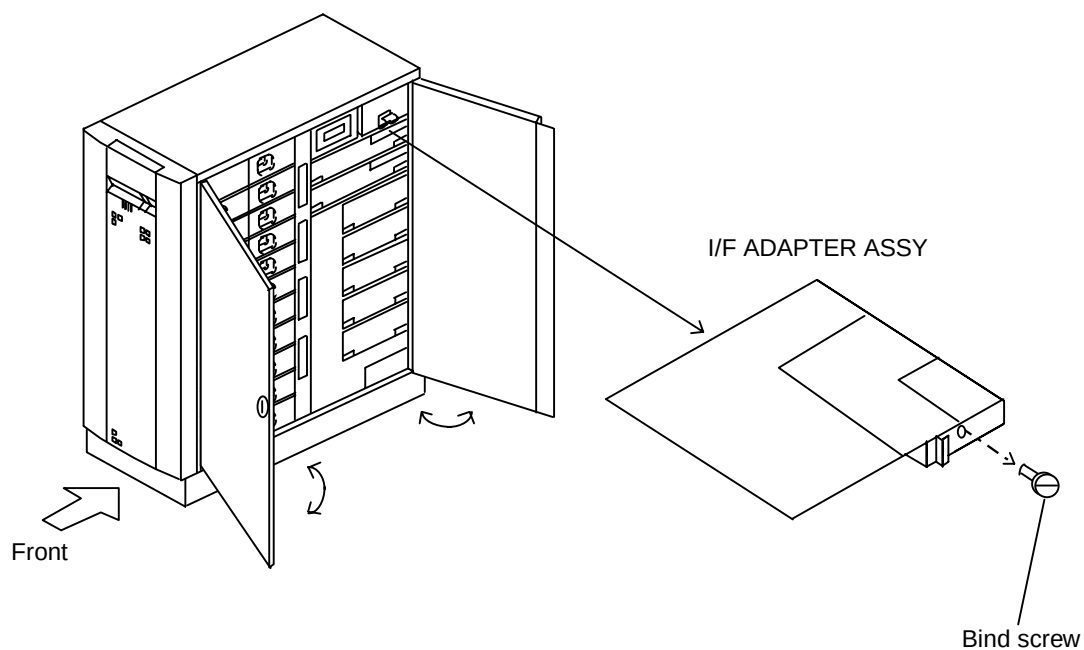

Figure 3.2.12 Setting I/F ADAPTER ASSY
(5) Setting I/F ADAPTER ASSY (See Figure 3.2.12.)
- ① Insert the I/F ADAPTER ASSY into the right place and tighten the bind screw.